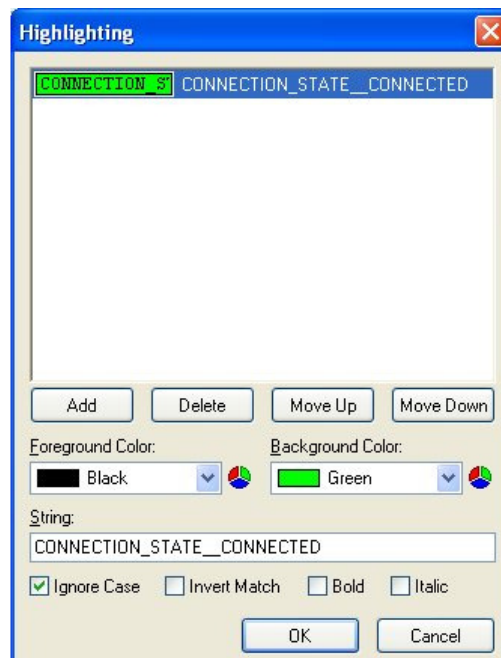

Figure 35. Highlighting Completed.
4. Figure 35 shows as an example the string required to be highlighted if a link is to be looked for.
6. Figure 35 shows the results of highlighting. Repeating the previous steps and using different colours other messages can be selected from the data stream displayed by the BareTail main window.